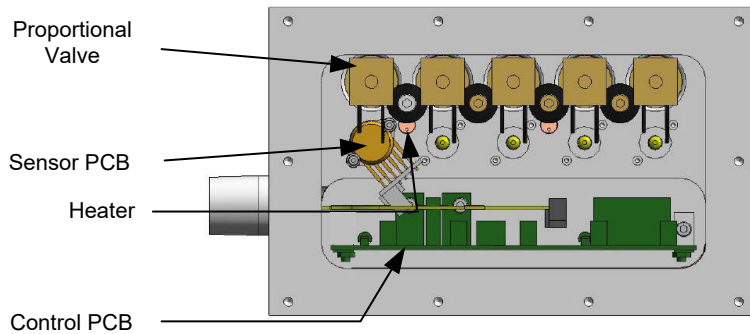

Fig. 6.8. EPC Control Assembly Components
The Zones are arranged in the EPC Control Assembly enclosure with Zone 1 on the left and Zone 5 on the right (see Figure 6.8).
5. Locate the valve to be replaced (See Figure 6.8).